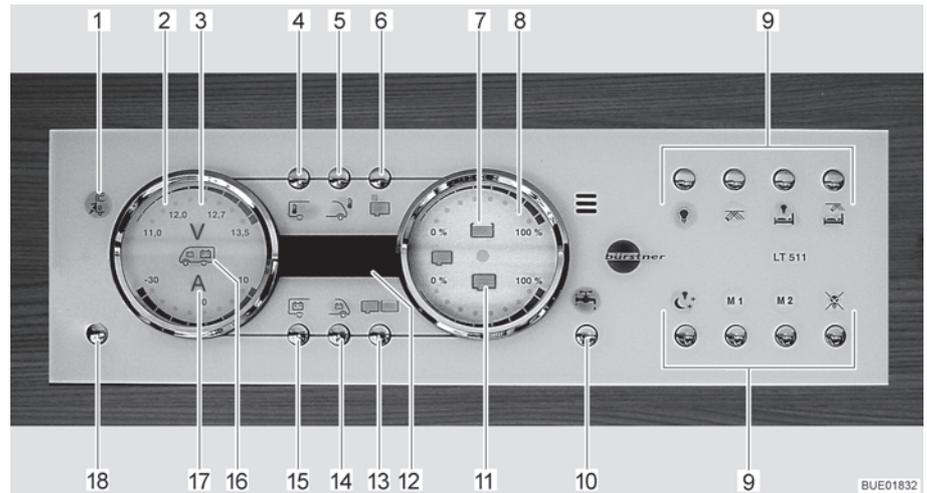

Fig. 139 Panel LT 511
The 230 V indicator lamp (Fig. 139,1) illuminates whenever line voltage is available at the transformer/rectifier input.
The 12 V main switch (Fig. 139,18) switches the panel and the 12 V power supply of the living area on and off.
- Briefly press the 12 V power supply button (Fig. 139,18). The 12 V living area power supply is switched on. The "12 V" indicator lights up.
- ▷ If, after switching on, the "11.0" LED of the volt indicator and the "V" volt symbol (Fig. 139,3) in the batteries gauge (Fig. 139,2) flash, the voltage of the living area battery is too low. Charge battery.
- ▷ If, after switching on, the "12 V" indicator and the "V" volt symbol (Fig. 139,3) flash three times, battery separation is activated. Deactivate battery separation.
- Briefly press the 12 V power supply button (Fig. 139,18). The 12 V living area power supply is switched off. The "12 V power supply" indicator goes out.
- Press button for living area battery (Fig. 139,15) and hold it down for approx. 10 seconds. The "V" volt symbol (Fig. 139,3) and the "12 V" indicator flash three times. The living area battery is disconnected from the 12 V power supply.
- Press the 12 V power supply button (Fig. 139,18) and hold it down for approx. 5 seconds. The "V" volt symbol (Fig. 139,3) and the "12 V" indicator flash three times. The living area battery is connected to the 12 V power supply. The indicator lights up after approx. 5 seconds.
- Press button for living area battery (Fig. 139,15). The "V" volt symbol (Fig. 139,3) lights up. The "A" ampere symbol (Fig. 139,17) lights up as either white or red depending on whether it is charging or discharging. The battery voltage and electricity of the living area battery are displayed via the LEDs in the gauge.
- Press button for starter battery (Fig. 139,14). The "V" volt symbol (Fig. 139,3) lights up. The battery voltage of the starter battery is displayed using the LEDs in the gauge.
- Press tanks button (Fig. 139,13). The water tank (Fig. 139,7) and waste water tank (Fig. 139,11) symbols light up. The fill levels of the water tank (upper scale) and of the waste water tank (lower scale) are indicated using the LEDs in the gauge.
Tank alarm The water tank symbol (Fig. 139,7) or waste water tank symbol (Fig. 139,11) flashes when the water tank is empty or the waste water tank is full.
The internal and external temperatures can be indicated using the digital display (Fig. 139,12).
Displays: ■ Press the button for the internal temperature (Fig. 139,4). The internal temperature is displayed.
■ Press external temperature button (Fig. 139,5). The external temperature is displayed.
The water pump can be turned on and off using the water pump button (Fig. 139,10).
Switching on: ■ Press the water pump button (Fig. 139,10). The symbol lights up.